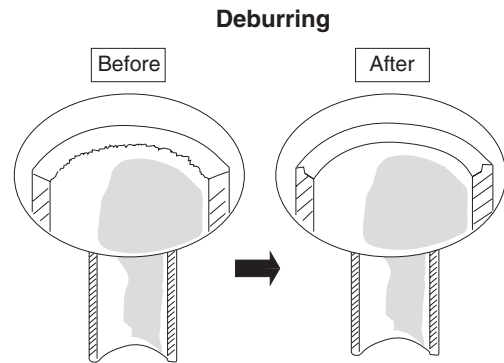

Fig. 2-22
- (1) Cut the copper tube to the required length with a tube cutter. It is recommended to cut approx. 30 – 50 cm longer than the tubing length you estimate.
- (2) Remove burrs at the end of the copper tube with a tube reamer or file. This process is important and should be done carefully to make a good flare. (Fig. 2-22)